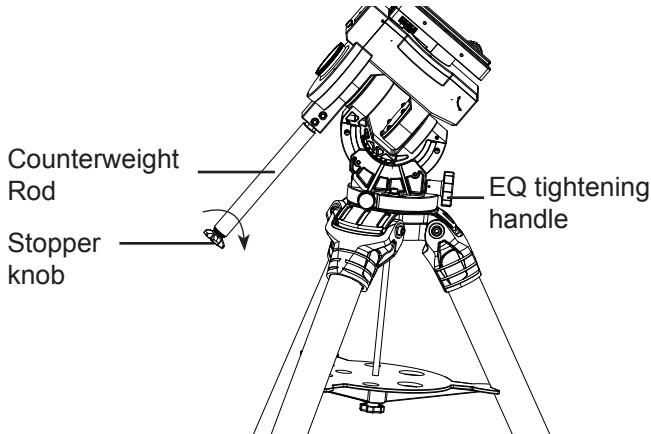

Fig. 1.3a
1. Screw the counterweight rod into the mount as shown in Fig. 1.3a (**).